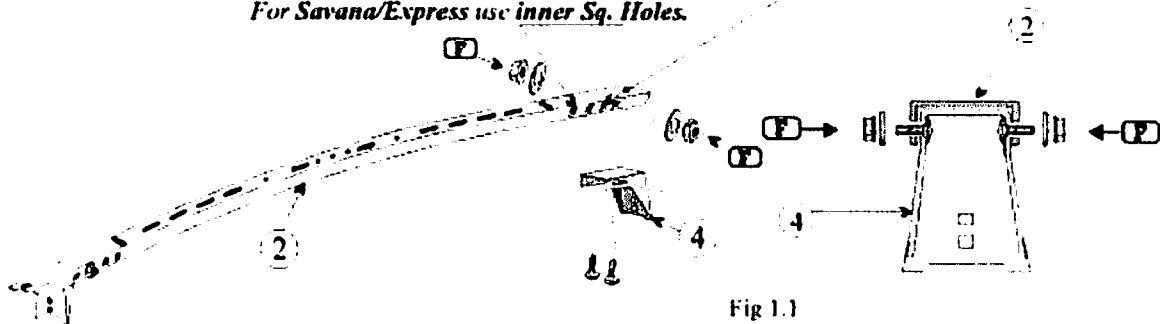

Fig 1.1
- 1.1 Attach a Foot Channel (4) to the sq. holes at each end of the Cross Support Bow (2) using two (2) of fas. Group (F). See Fig 1.1 for assistance. The bolt heads should be inside the channel, allowing access to the nuts for tightening at a later time.